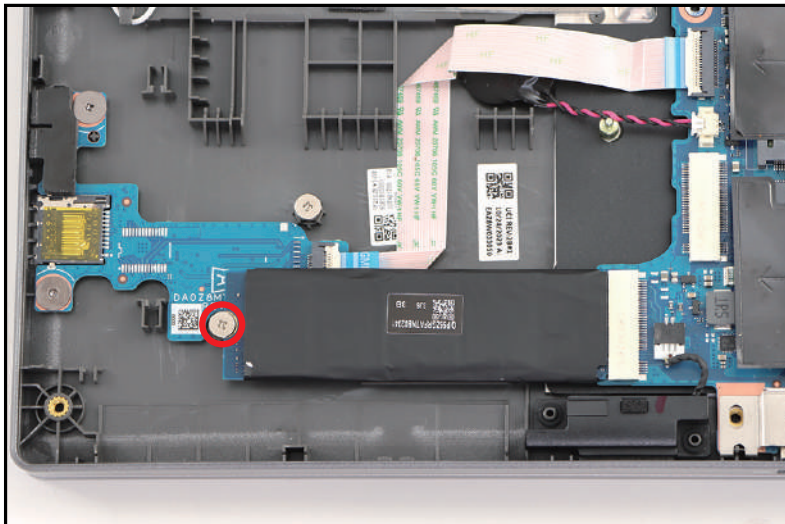

Figure 3-156. Replacing the SSD Module
6. Install one (1) screw to secure the SSD module (Figure 3-156).